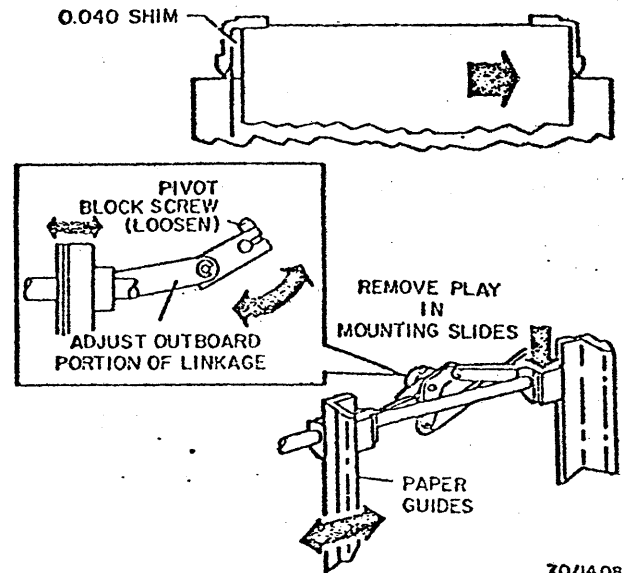

Fig. 3-44. Outboard Paper Guide
4. Bank the paper against the inboard paper guide. Check for 0.040 gap between the outboard paper guide and the paper stack (Fig. 3-44). If it is necessary to adjust either paper guide, refer to 3.2.2.